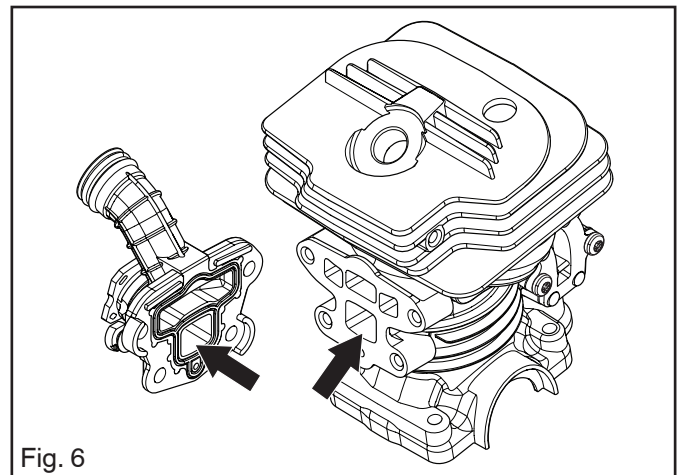

Fig. 6
7. That the intake manifold and its rubber seals are undamaged. See figure 6.